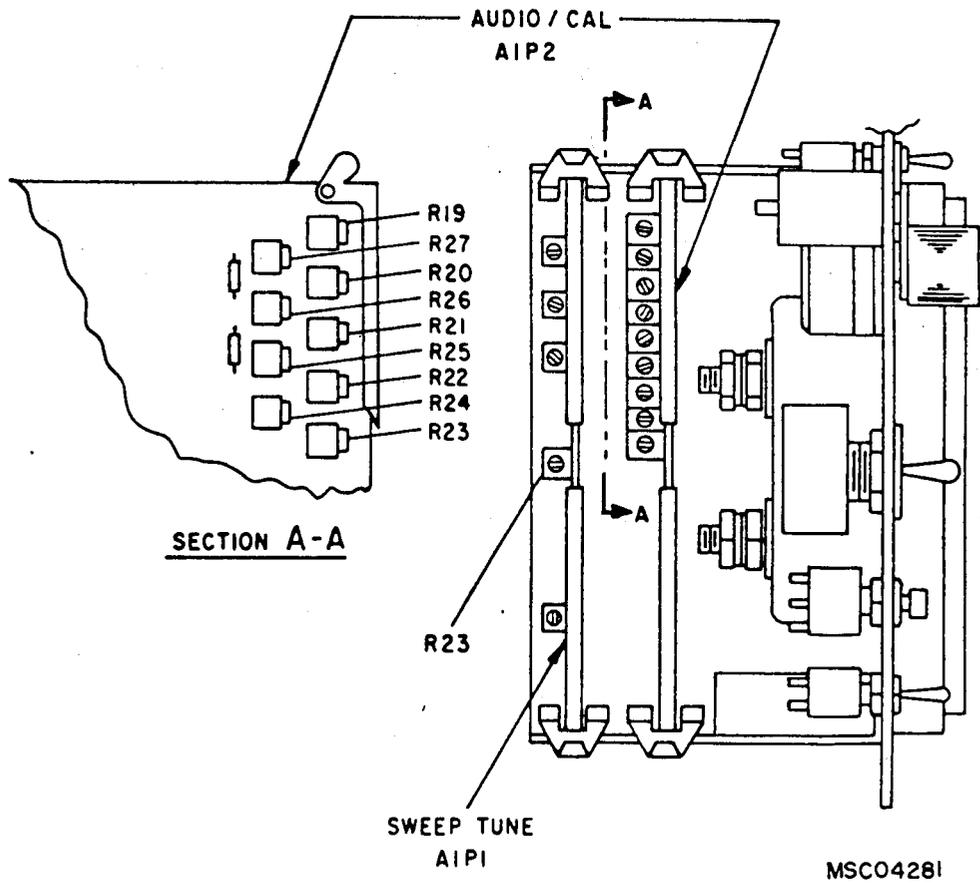

Figure 2. Adjustment locations.
(3) Set **BAND STEP** switch to position 3 and **TUNING** (**COARSE** and **FINE**) controls for a 100-kHz indication on **FREQUENCY** dial. Set **ATTENUATOR** switch to 40/60.
(4) Adjust test oscillator frequency to 100 kHz and output for an upper-scale indication on TI meter. Fine tune oscillator for peak indication.
(5) Adjust test oscillator output for a -67 -dB input to TI. (Test report value of attenuator must be added to test oscillator output indications).
(6) Adjust **CAL** level control for a 0-dB indication on TI meter.
(7) Press **CAL** pushbutton and adjust R27 (fig. 2) for a 0-dB indication on TI meter (R).
(8) Set **BAND STEP** switches to position 1 and adjust **TUNING**, (**COARSE** and **FINE**) controls for a 20 kHz **FREQUENCY** dial indication.
(9) Repeat technique of (4) and (5) above for test oscillator output frequency of 20 kHz. If TI meter does not indicate 0 dB, record the error.
(10) Set **BAND STEP** switches to position 4 and adjust **TUNING**, (**COARSE** and **FINE**) controls for a 200 kHz **FREQUENCY** dial indication.
(11) Repeat technique of (4) and (5) above for test oscillator output frequency of 200 kHz. If TI meter does not indicate 0 dB, record the error.
(12) If error recorded in (9) and (11) above exceeds ± 1 dB. Repeat (3) through (11) above and readjust R27 (fig. 2) for best in-tolerance condition.
(13) Repeat technique of (3) through (5) above for TI **BAND STEP** switch positions, **FREQUENCY** dial indications, and test oscillator frequencies listed in table 9 while adjusting corresponding adjustment in table 9 for a 0 ± 1 dB indication on TI meter.
If an out-of-tolerance condition is noted in (19) below, perform adjustment and then repeat the 9-MHz check in (13) above while readjusting R24 (fig. 2) for best in-tolerance results.
(19) If TI meter does not indicate 0 ± 2 dB adjust R24 (fig. 2) until TI meter indicates within tolerance.
(20) Set **BAND STEP** switches to position 11 and adjust **TUNING**, (**COARSE** and **FINE**) controls for a 35-MHz indication on **FREQUENCY** dial.
(21) Set attenuator to 40 dB and repeat (16) above.
(22) Adjust signal generator frequency to 35 MHz and output for an upper-scale indication on TI meter. Fine tune signal generator for peak indication.
(23) Adjust signal generator output for a -47 dB input to TI (power meter indication must be added to test report value of attenuator).
(24) Adjust R19 (fig. 2) for a 0-dB indication on TI meter (R).
(25) Repeat technique of (20) through (24) above for **BAND STEP** switch positions, **FREQUENCY** dial indications, and signal generator frequencies listed in table 10. While adjusting corresponding adjustment as listed in table 10.